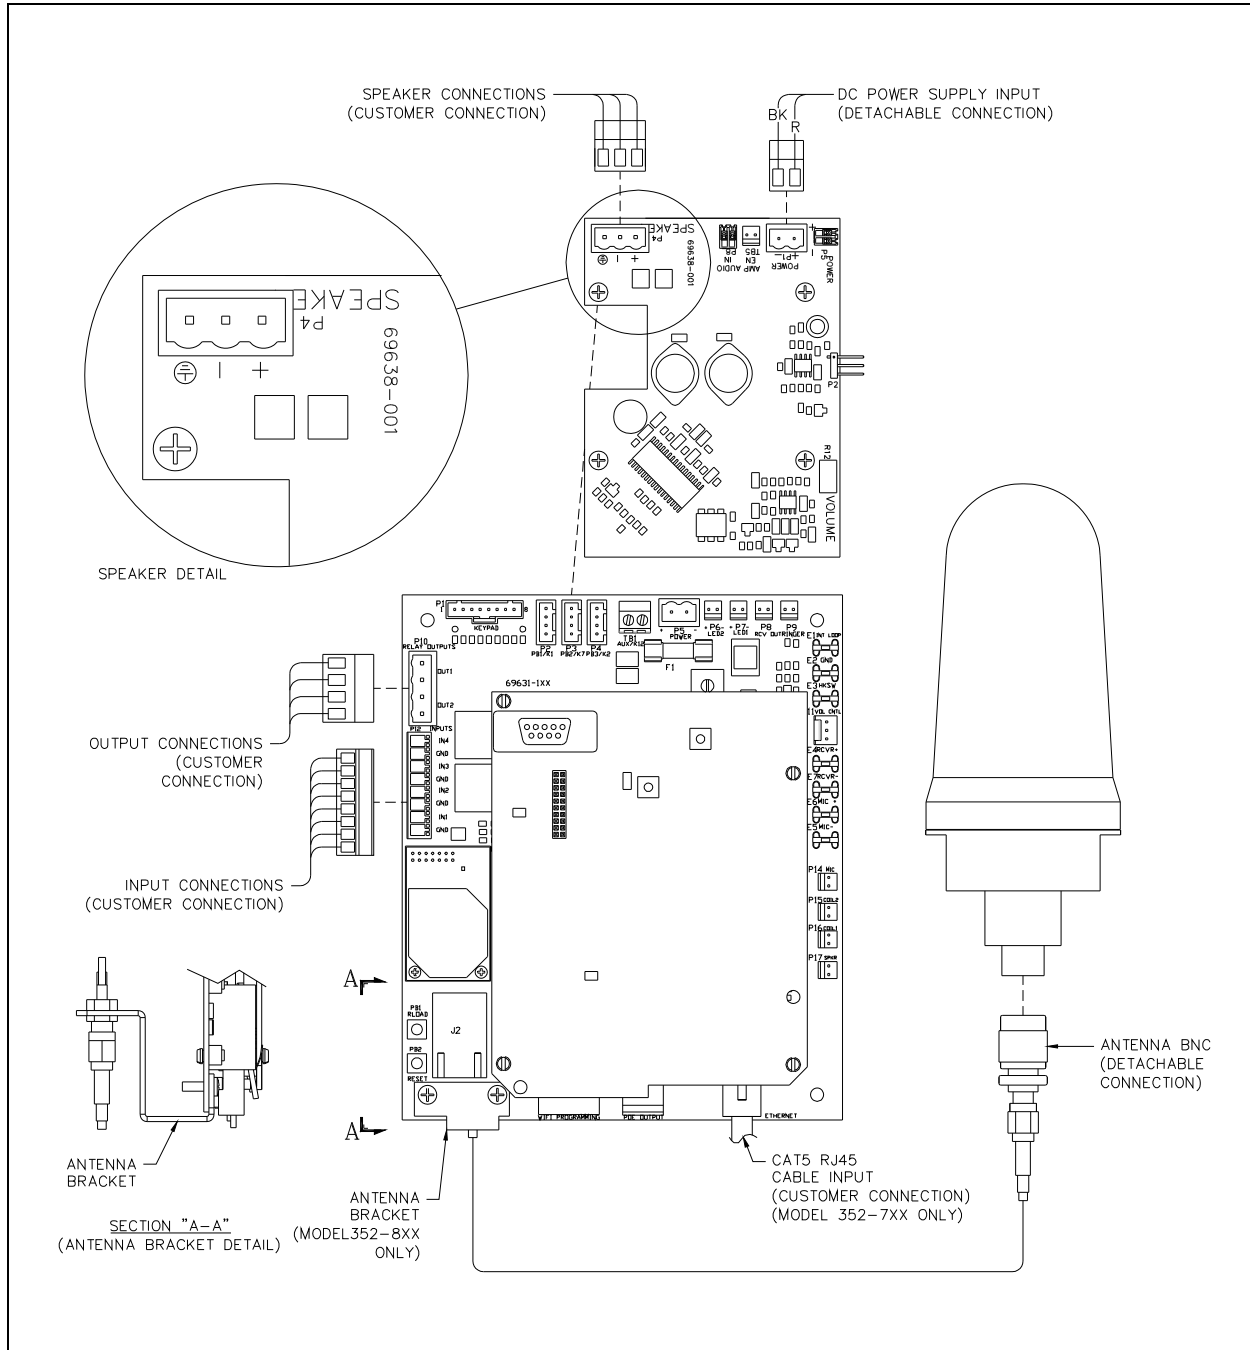

Figure 10. Internal PCBA Connections
2. For wired versions, plug the incoming Cat5 data line to the network Cat5 cable receptacle on the underside of the VoIP PCBA. See Figure 10. Remove the power supply cover in the rear enclosure for access to the terminal block.
Install any additional connections as indicated below. Refer to Figure 10 for wiring details. Refer to Table 4 on page 14 for the recommended conductor sizes.
Connect a Cat5 or Cat5e UTP cable with an RJ45 connector between the Local Area Network (LAN) and the VoIP PCBA. See Figure 10.